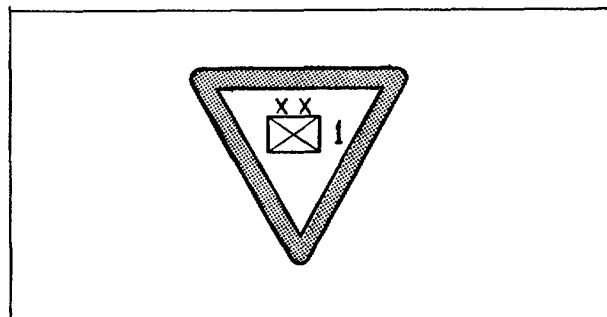

Figure 14. Priority sign.
(1) The priority sign will be made of sheet metal in the shape of an equilateral triangle with one point down. Each side will be 12 inches long; the corners will be rounded to a 1/2 inch radius, Figure 14.